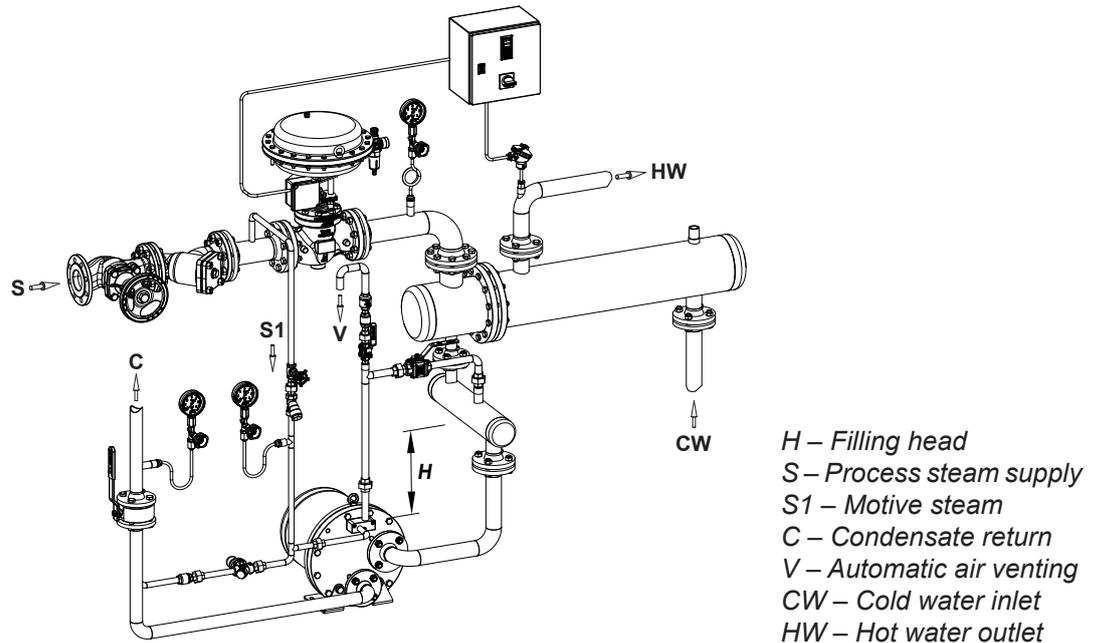

Fig. 1
Remark: Filling head (H) is shown in Fig. 1.
7. Available filling head (H) in mm or any other dimension that allows its determination. See Fig. 1.